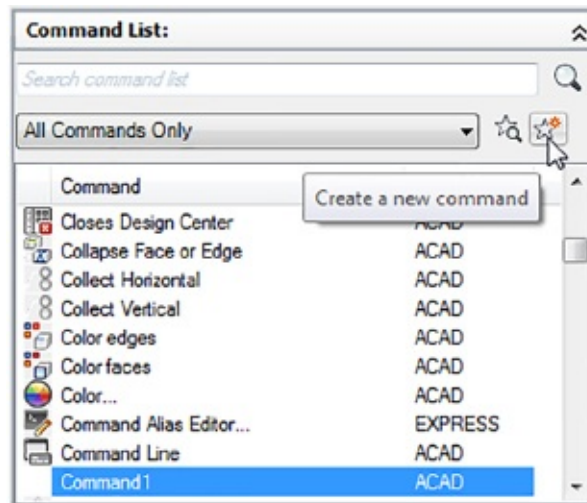

FIGURE 24.17 Click the Create A New Command tool and a new command appears in the list.
2. In the Command List panel title bar, click the Create A New Command tool. A new command called Command1 appears in the list of commands (see Figure 24.17).